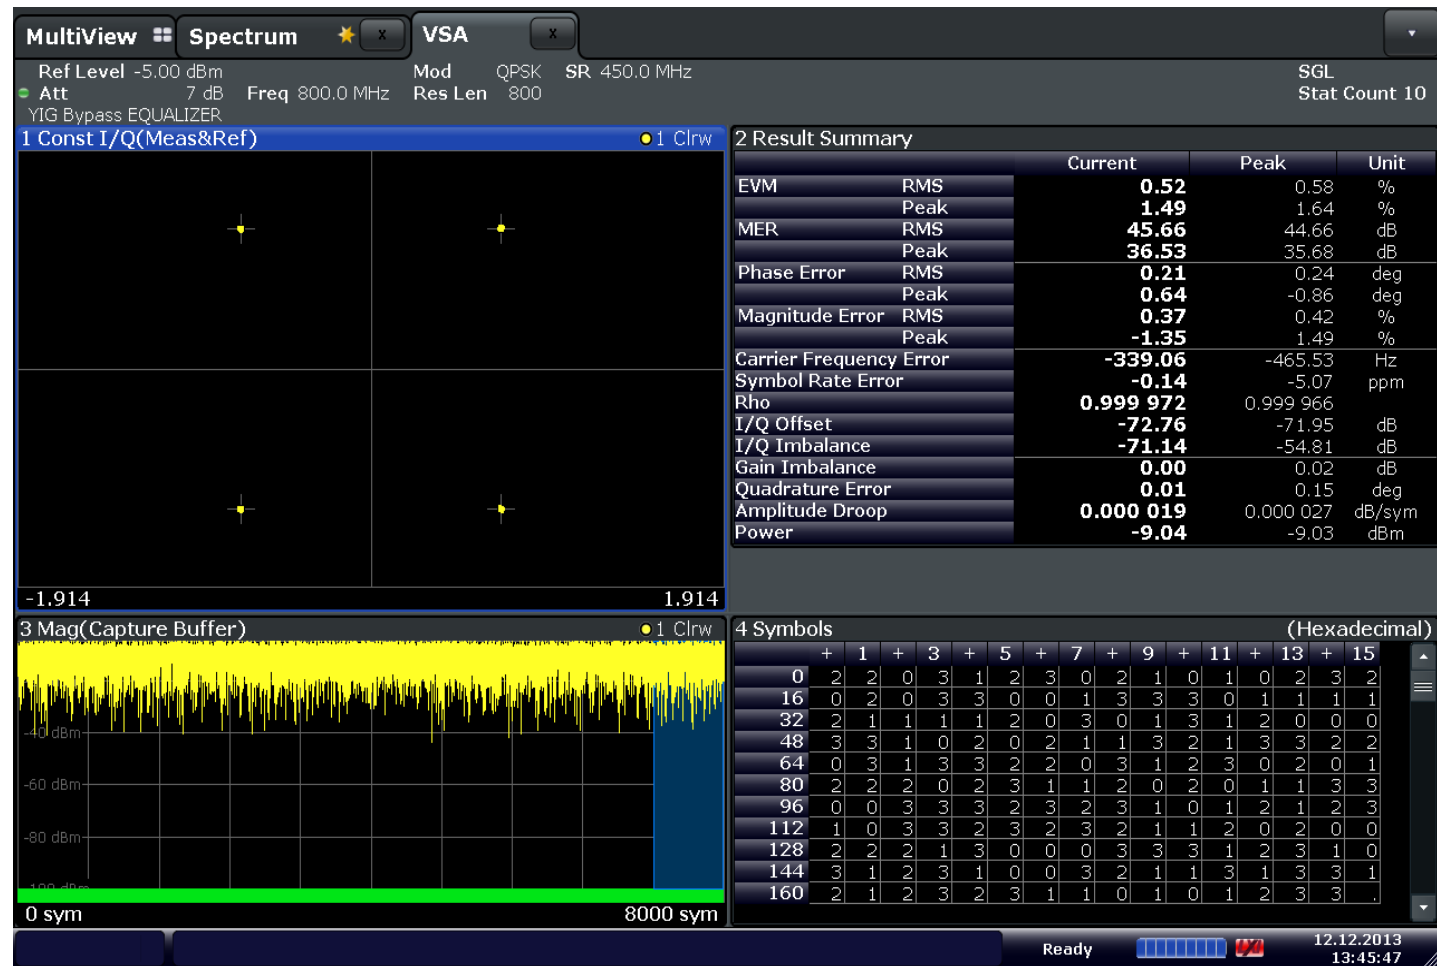

Figure 1. Demodulation of a QPSK-modulated signal with a bandwidth of just under 500 MHz using an R&S FSW signal and spectrum analyser.
PAM4 doubles the bit rate for a given baud rate over NRZ. Thus, a 28 Gbaud PAM4 signal can deliver the same bit rate as a 56 Gbaud NRZ signal. Figure 1 shows the difference between NRZ (left) and PAM4 (right).
**Figure 1.** An NRZ data stream (top left) uses two voltage levels and produces a single eye (bottom left). A PAM4 data stream (top right) uses four levels, producing three eyes (bottom right). (Image courtesy of Keysight Technologies)
Fig. 1 shows an example of the demodulation of a QPSK-modulated signal with an R&S FSW signal and spectrum analyser, plus the R&S FSW-K70 vector signal analysis option. Next to the constellation diagram is a table showing the most important quantities for describing signal quality such as the EVM, the phase error and the symbol rate error. The vector signal analysis option makes it possible to demodulate any modulated single carrier up to a bandwidth of 500 MHz and provides numerous other analysis functions, including channel compensation. The signal analysed here has a sample rate of 450 MHz which – with an RRC filter with a rolloff factor of 0.1 – results in a bandwidth of just under 500 MHz.